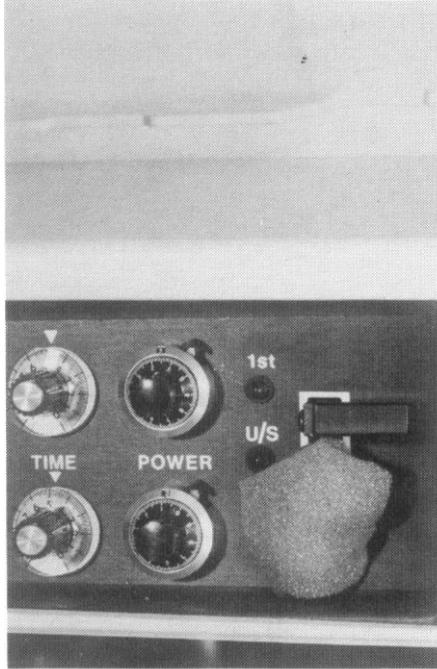

FIG. 5-5 Z-LEVER PACKAGING
- 5.1.19 Remove sponge packing from the slot under the Z-lever (Fig 5-5).